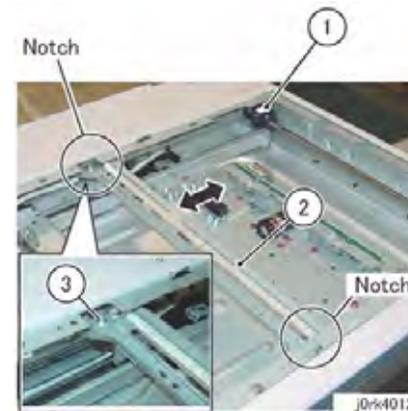

Figure 12 Full Rate Carriage
6. Affix the cable to the Full Rate Carriage (Figure 12)